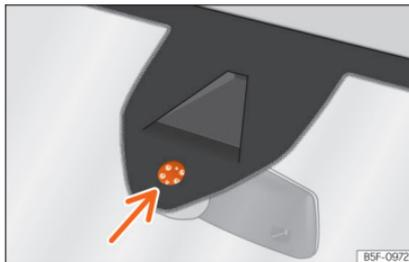

Fig. 115 Rain sensor sensitive surface
Possible causes of faults and mistaken readings on the sensitive surface »» **Fig. 115** of the rain sensor include:
- Clean the sensitive surface of the rain sensor regularly and check the blades for damage »» **Fig. 115** (arrow).